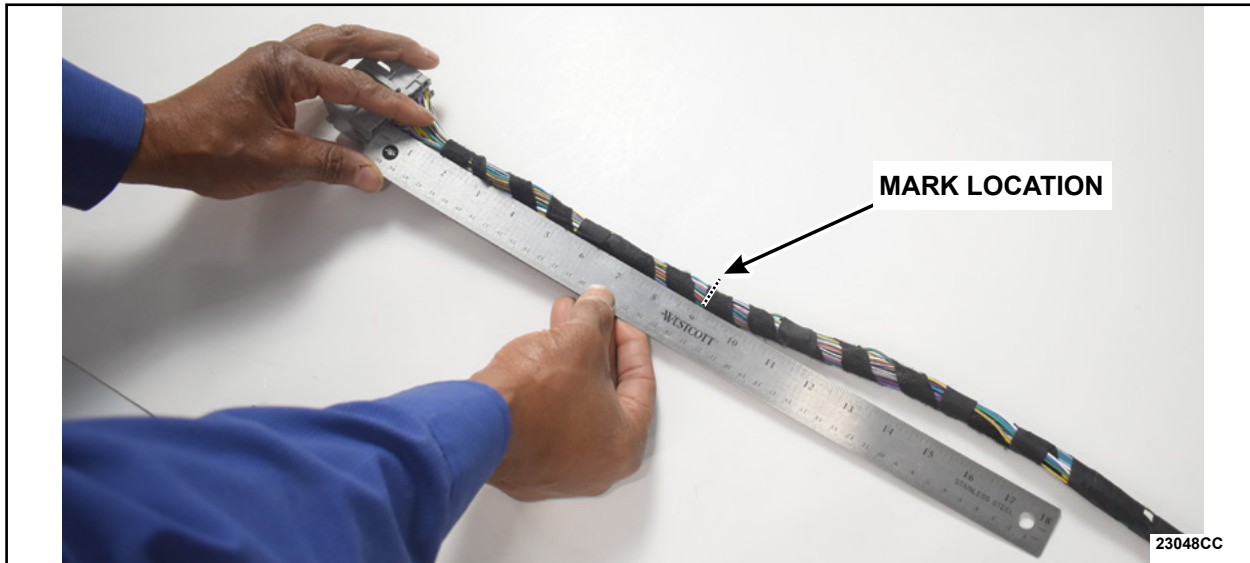

FIGURE 4
4. Measure 9 in (229 mm) from the connector and mark the location of how far to open the harness in the next Step. See Figure 4.